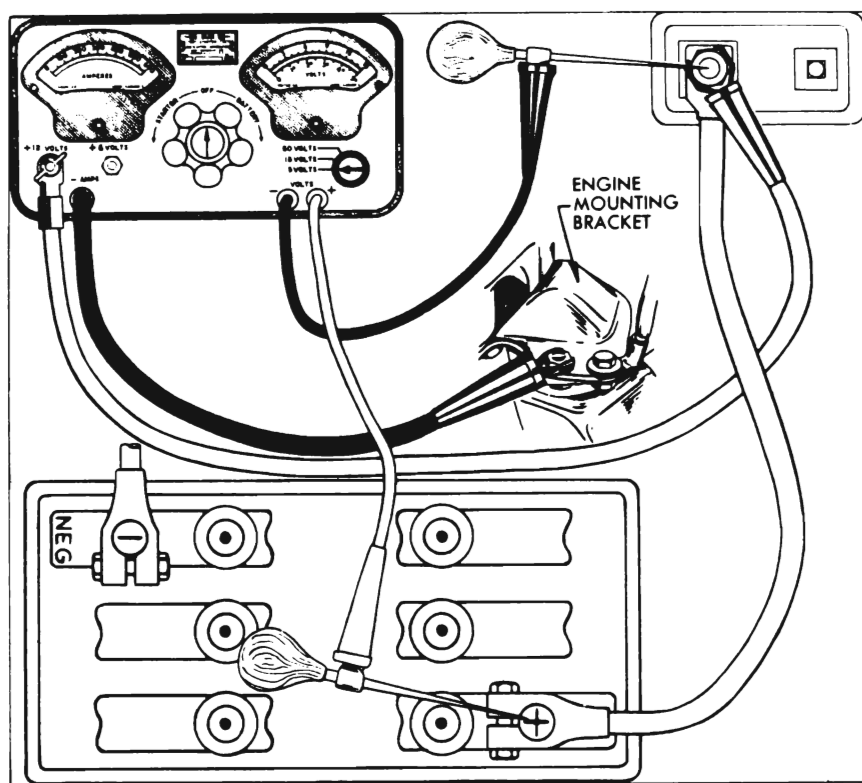

Figure 10-4—Battery Cable Test Connections
2. Connect ammeter positive (+) lead to battery terminal stud on junction block. Connect ammeter negative (-) lead to one side of rheostat and connect other side of rheostat to ground on engine, preferably at point where battery ground strap is attached. In the instrument shown in figure 10-4 the ammeter and rheostat are connected in series inside the case.
sure direct contact with the terminal stud. *Do not connect to the ammeter lead clip.* Attach a prod to voltmeter positive (+) lead and apply the prod to *center* of battery positive (+) post (fig. 10-4). Make sure that clips of voltmeter leads have clean metal contact with prods.